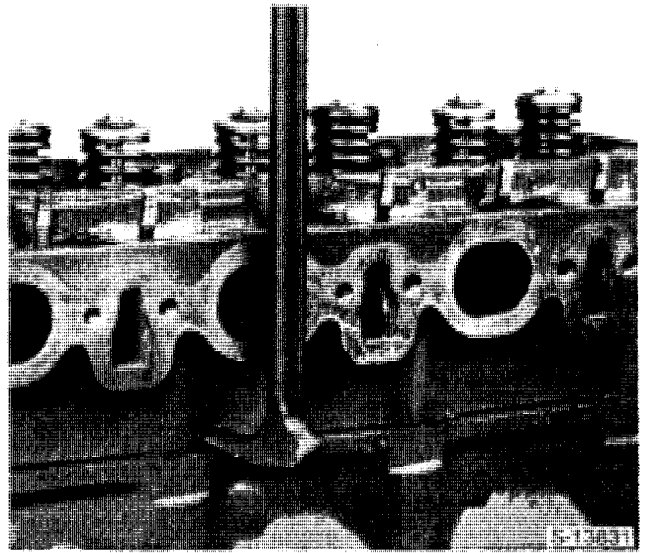

Figure 4
21. Lift the cylinder head from the block. If necessary, lever the head off the block at the pads provided, taking care not to damage the cylinder head or block surfaces, Figure 4.